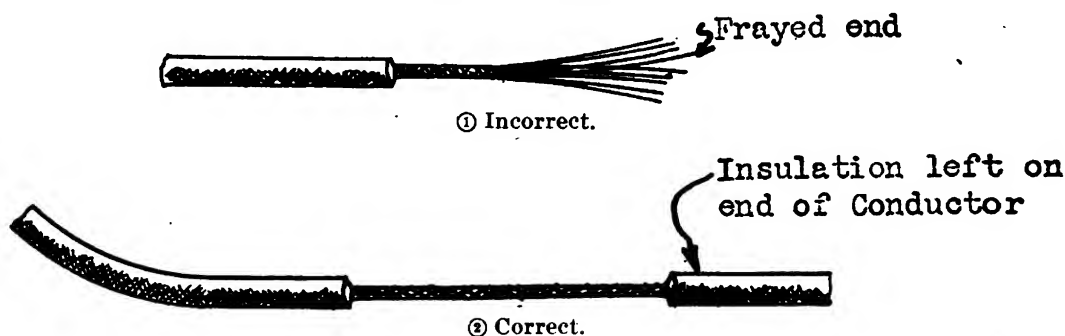

FIGURE 51.—Stripping tinsel wire.
(2) When soldering wires to jacks, two or more terminals are very close together. Care must be taken, therefore, to keep solder from lumping and dropping from one terminal to the other one, thus creating a short circuit. If insulation is stripped too far back from the end of the wire, any moving of the wire might cause a short circuit.
b. Figure 51 shows a piece of tinsel wire cut and stripped correctly and incorrectly. The very fine woven wires unravel, and are then impossible to fasten to a terminal if the correct method is not used. In stripping tinsel wire of insulation in preparation to soldering, it is best to back a slight distance from the end of the wire and cut the insulation off of the wire, leaving a small amount of insulation at the end of the wire to hold the small hair-like wire together. Scissors are used principally in stripping insulation from tinsel. There are two layers of insulation, a coarse woven outside, and light cotton twist, inside the outer covering. The outer covering is easily removed with the scissors, but the inner is more difficult to remove without damaging the wires. It is best to slightly twist the tinsel after the outer covering is removed. This pulls the inner insulation